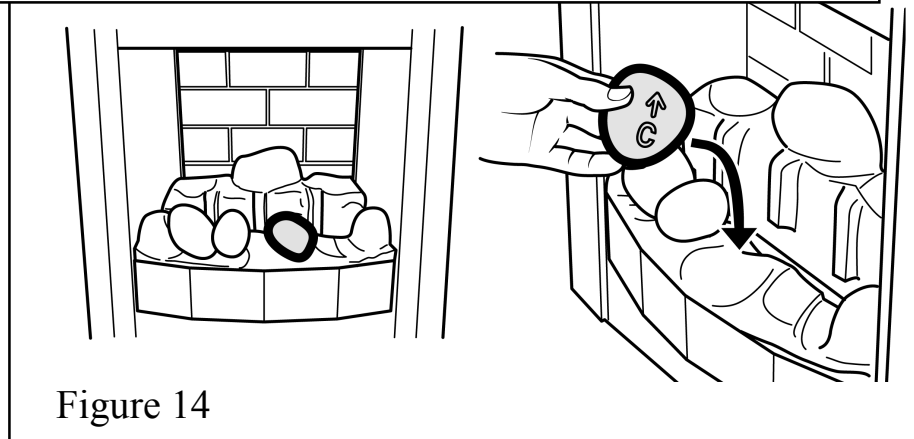

Figure 14
5. Hold pebble 'C' upright with the arrow pointing to the top. Place pebble "C" on top of the front base pebble. It should lie against the moulded pebble to its left. (See figure 14).